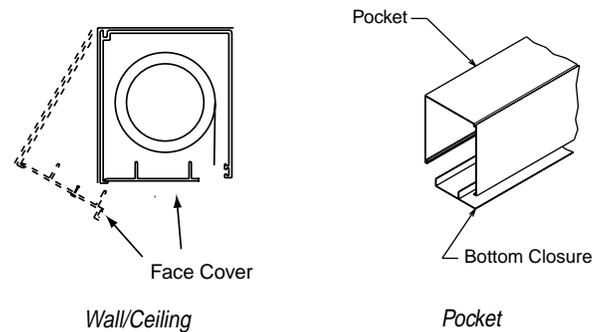

Figure 3
- ③ Remove face cover from head box by pulling down and out on the bottom edge of cover near end caps. It will snap off (see Fig. 3). If this is a pocket installation, remove screws at end caps. The bottom of the cover box snaps down and off at end caps and then slides out of slot in cover box (see Fig. 3).